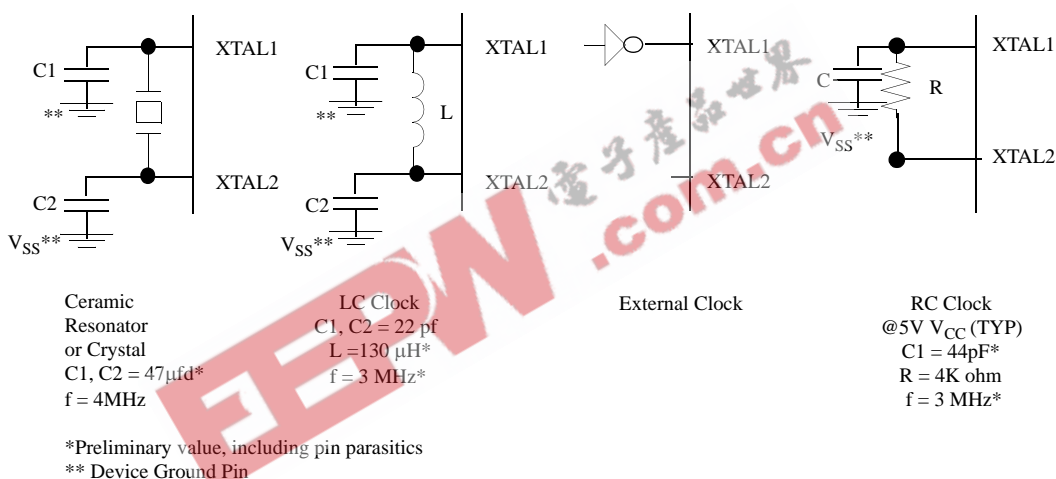

Figure 12. Oscillator Configuration
- Notes:** The RC option is available up to 4MHz. The RC oscillator configuration must be an external resistor connected from  $X_{IN}$  to  $X_{OUT}$ , with a frequency-setting capacitor from  $X_{IN}$  to Ground (Figure 12).